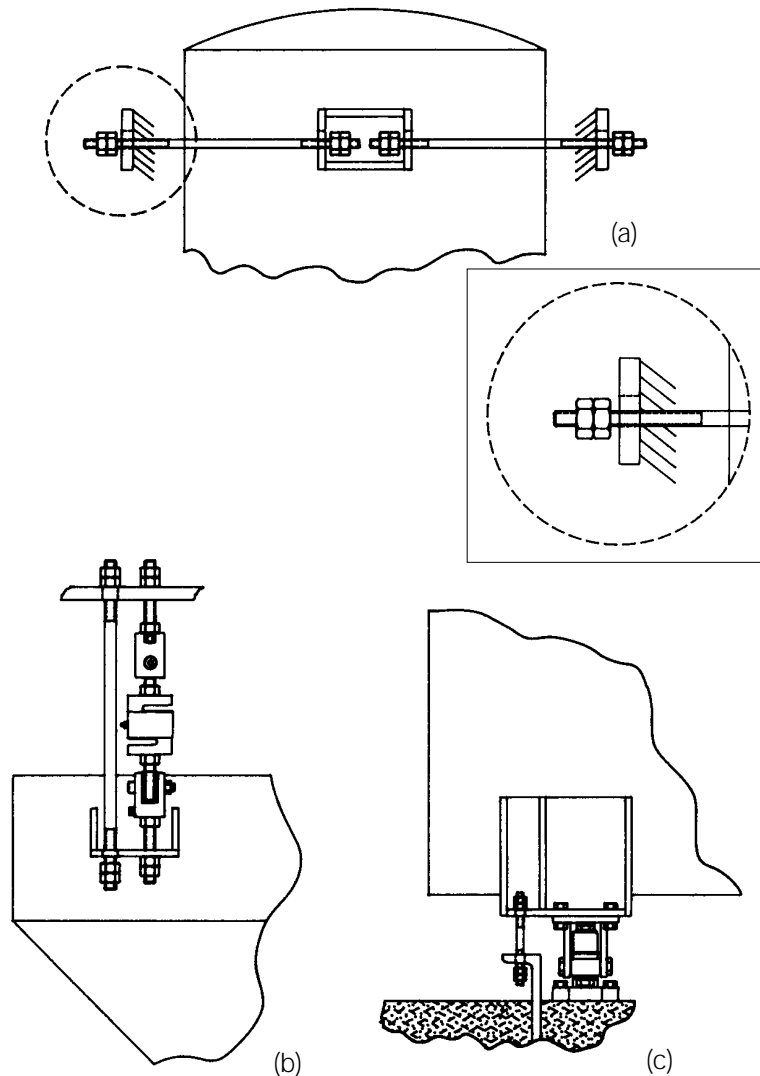

Figure 3-7
As shown in Figure 3-7 (a), to be most effective, safety check rods must be fitted at or above the filled vessel's center of gravity. Note that stay rods will perform all these functions and more; however, safety check rods are less critical to system operation and therefore do not require the same attention to detail for successful installation.
- On all vessels mounted in tension where failure of the normal suspension means would allow the vessel to fall and cause injury or damage, see Figure 3-7 (b).
- In place of horizontal check rods when it is not practical to use these to ensure the stability of tall slender vessels or those subjected to wind or seismic forces, see Figure 3-7 (c).